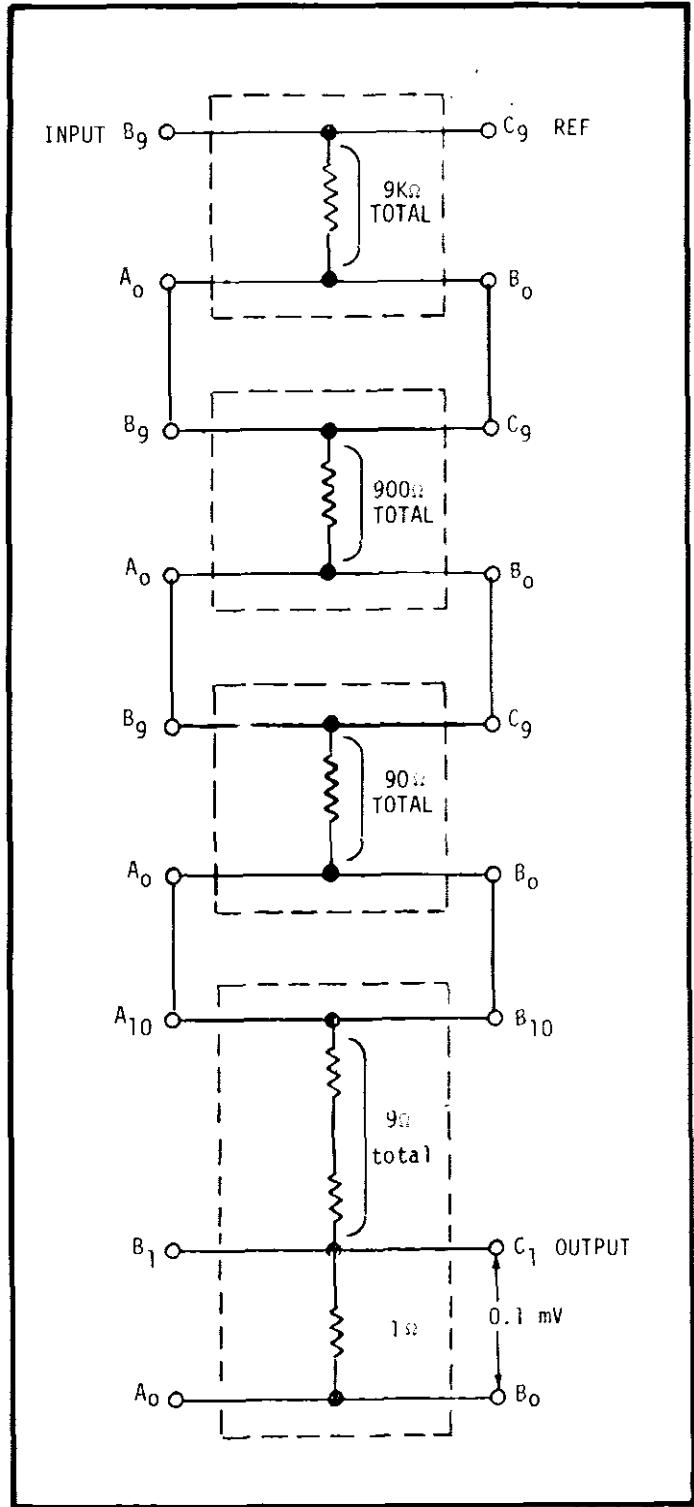

FIGURE 41. Voltage Divider Connections, 0.1mV Output.
a). Connect Voltage Divider for 1:10,000 division ratio as shown in Figure 41.